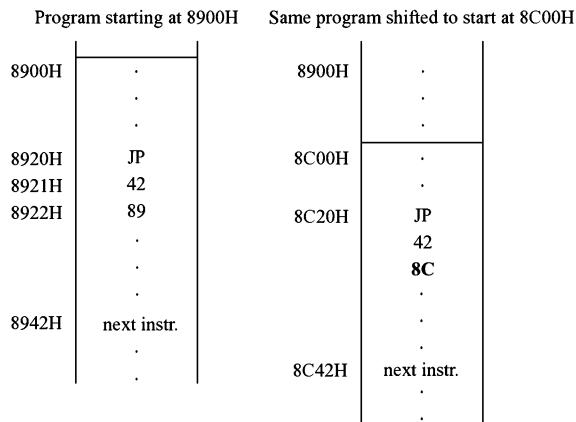

Fig. 27.5a Problem in using absolute jump instruction
**Advantages of relative addressing:** Let us say we have used absolute jump instructions in our program, as shown in Fig. 27.5a. It may be noted that the JMP instruction of 8085 has the mnemonic JP in Z-80. Thus JP stands for absolute jump in Z-80. Assume that our program is stored in memory starting from 8900H and for some reason, we want to shift our program to memory starting from location 8C00H. If the program is simply moved to a new starting location as 8C00H, it will not work properly in that location. It is necessary to modify the addresses that appear in the absolute jump instructions in order that the program works fine in the relocated region. For example, at location 8C20H the instruction should be changed from 'JP 8942H' to 'JP 8C42H'.